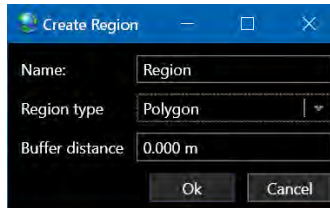

FIGURE 19-17 CREATE REGION DIALOG
- ii. In the resulting Create Region dialog (see Figure 19-17)